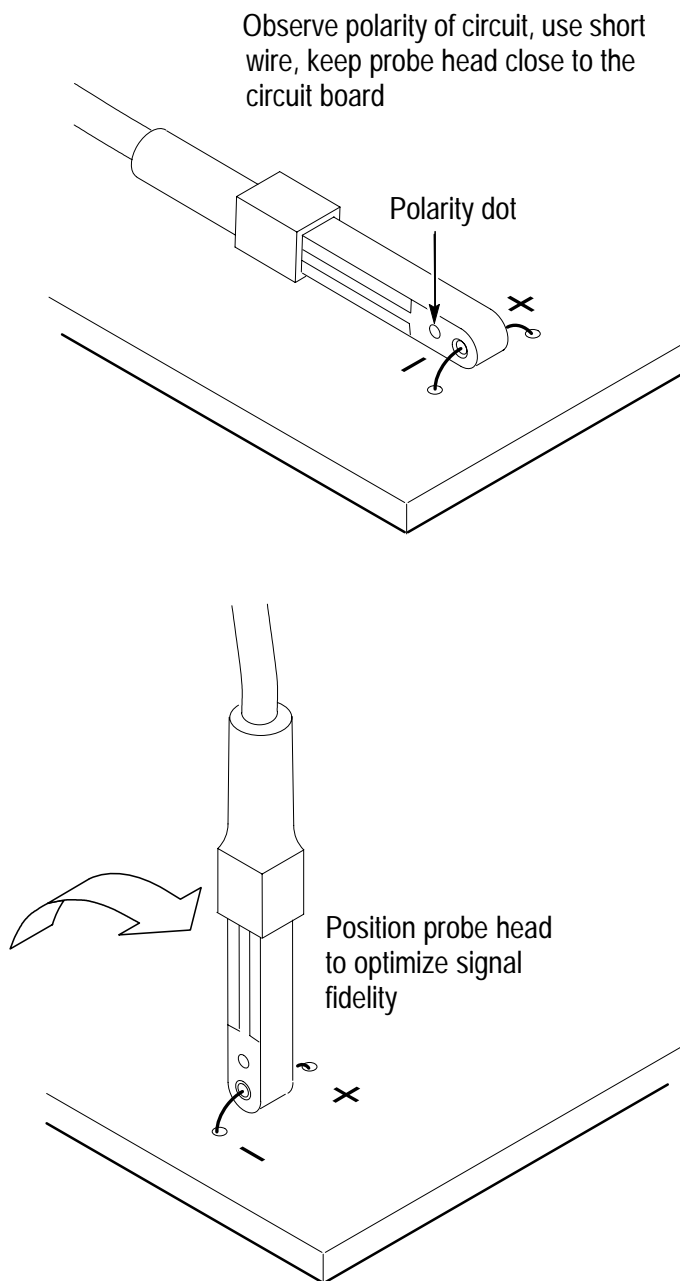

Figure 2: Using a single wire
- a. For the best overall signal fidelity, use a short wire with a small diameter. (See Figure 2.)